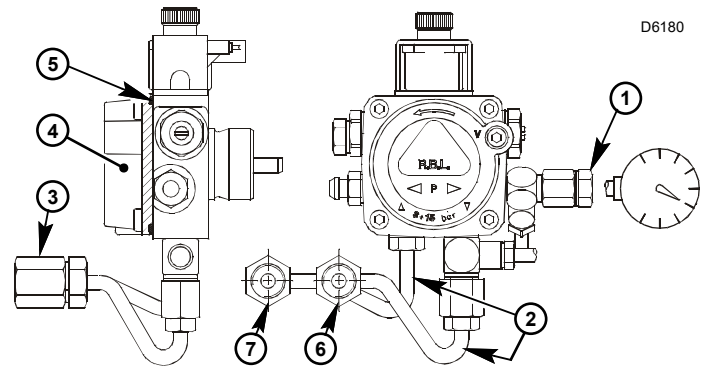

Fig. 13
The suction hose is identified by a specific label (see Fig. 13).
- A The burner is shipped with the pump set to operate on a two line system. Suction and return lines (6 & 7 in Fig. 13) should be the same diameter and both should extend to the same depth inside the fuel tank. Be sure there are no air leaks or blockages in the piping system. Any obstructions in the return line will cause failure of the pump shaft seal. Do not exceed the pipe lengths indicated in the Tab. H.